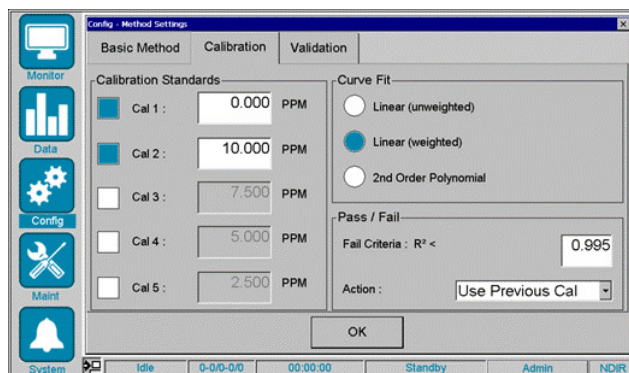

Figure 5.6 Config - Method Calibration Settings
The **Cal 1** thru **Cal 5** concentration values (in PPM) are used to define the expected range of the samples to be analyzed. At a minimum, two (2) calibration standards should be defined. The standards should be in increasing levels of concentration and should fully bracket the expected concentration range of all Sample Ports being measured (Figure 5.6).
The Val 1 thru Val 5 concentration values (in PPM) are carried over from Calibration screen. Here, the standards are selected to define which one(s) will be used to validate the accuracy of the calibration (Figure 5.6).